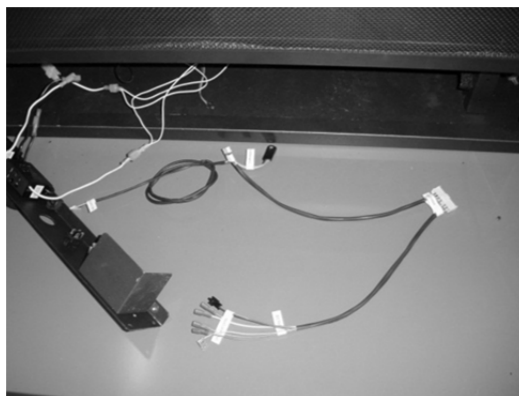

Figure 18
- 11 Place the GreenSmart wiring harness in front of the fireplace, noting the position of each connector (see Figure 18).